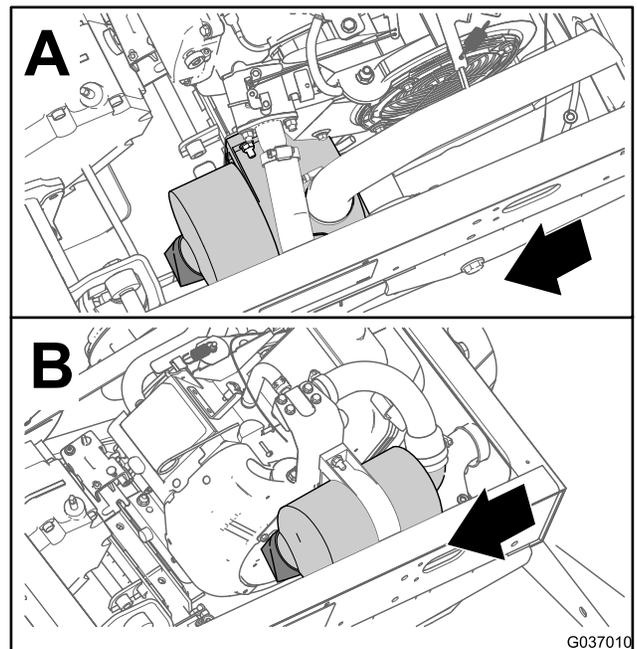
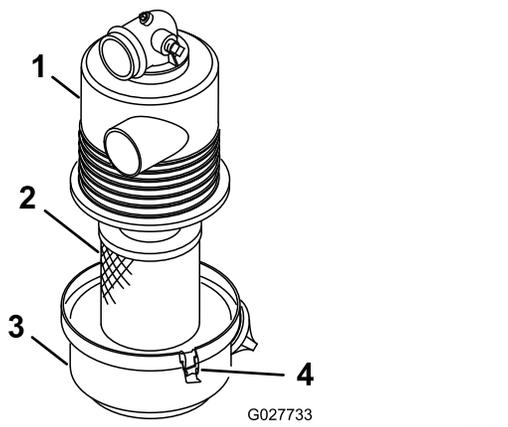

Figure 36
Figure 37
- Check the air-cleaner body for damage which could possibly cause an air leak (Figure 36 and Figure 37).
3. Insert the air-filter element into air-filter housing (Figure 37).
4. Align the air-cleaner cover with the air-cleaner housing (Figure 37).
5. Secure the cover to the housing with the latches (Figure 37).
3. Release the latches securing the air-filter cover to the air-filter housing (Figure 37).
4. Separate the air-filter cover from the air-filter housing, and clean the inside of the cover (Figure 37).